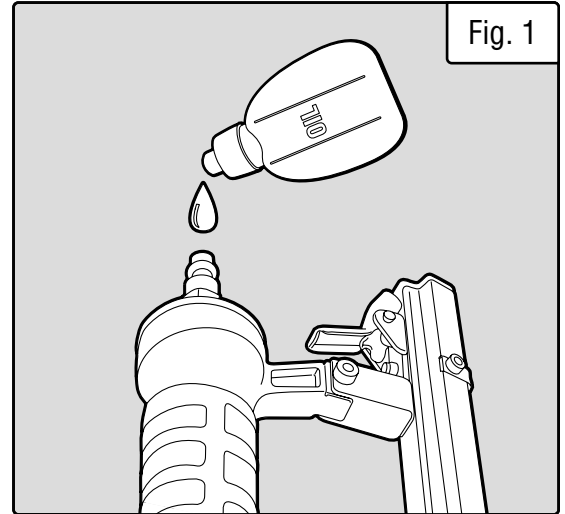

Fig. 1
2. Turn the tool so the air inlet is facing up. Place 4 - 5 drops of 30W non-detergent air tool oil (included) into the air inlet (Fig. 1).